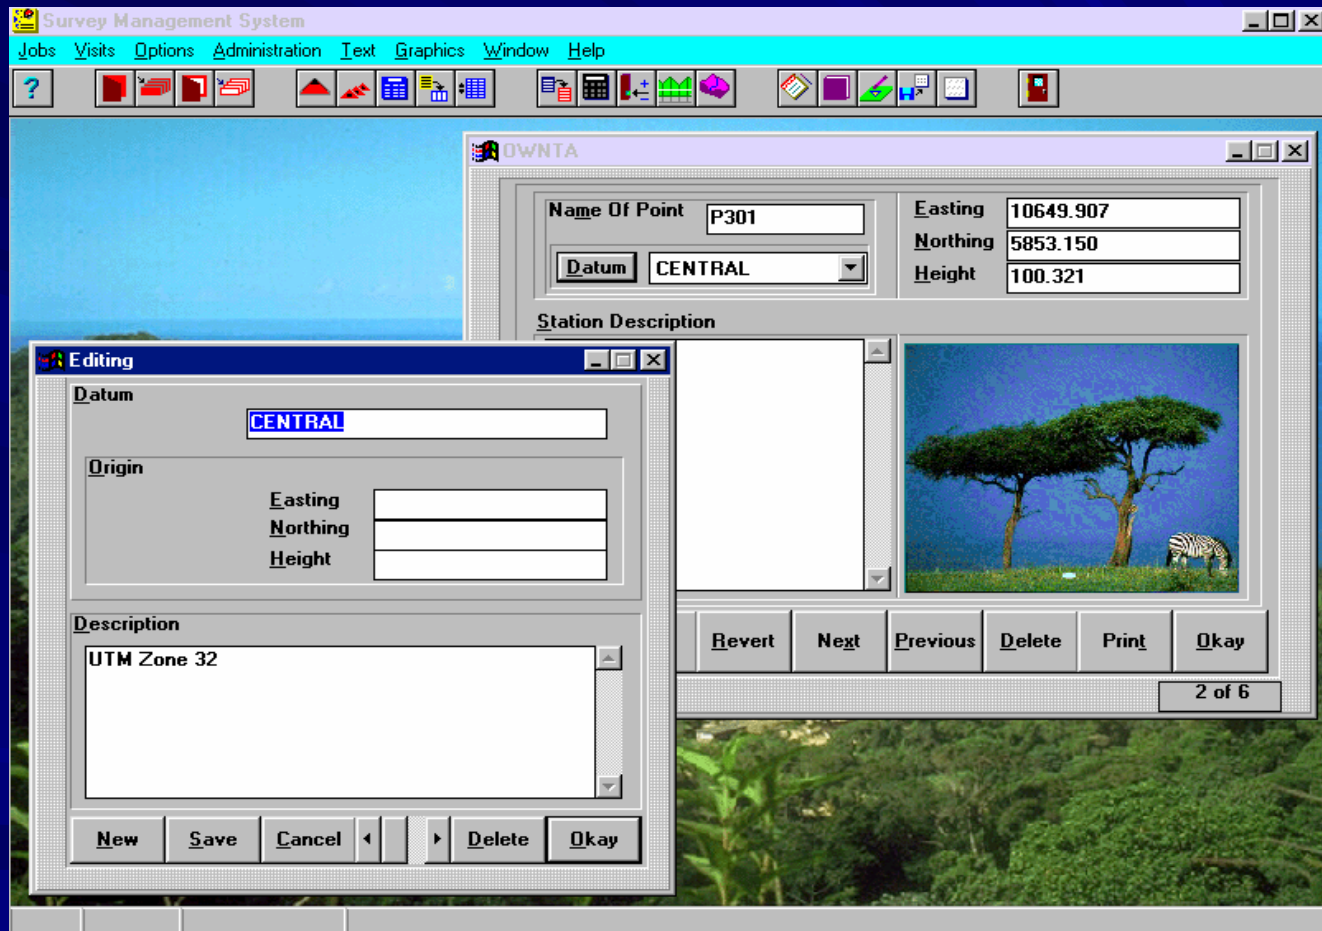

Fig. 3
- Also, in line with the trends in geo-informatics, SMS provides the capability to include photographic attributes in station descriptions supported by integrated image and graphic editor, Fig. 3.